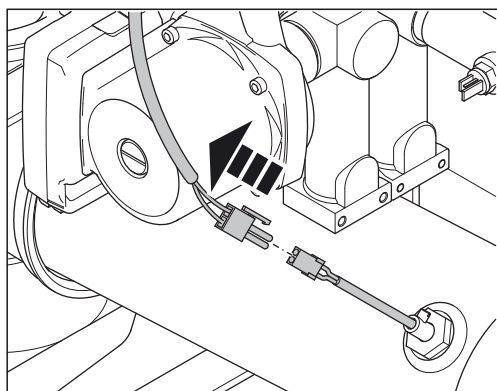

Fig. 6-12 Release the plug connection for the flue gas temperature sensor
1. Remove the sound insulation hood and the boiler panelling. Release the plug connection on the sensor cable (fig. 6-12).